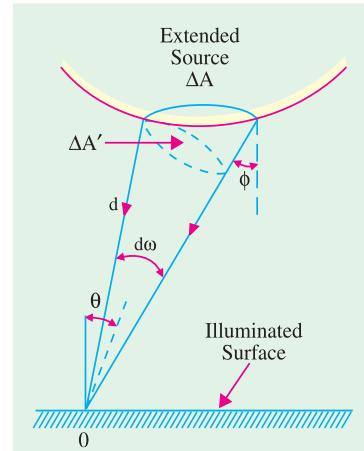

Fig. 49.3
**7. Luminance (L) of an Extended Source.** Suppose  $\Delta A$  is an element of area of an **extended source** and  $\Delta I$  its luminous intensity when viewed in a direction making an angle  $\phi$  with the perpendicular to the surface of the source (Fig. 49.3), then luminance of the source element is given by